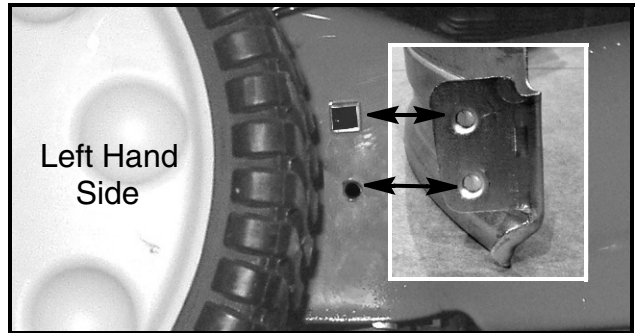

FIGURE 6
13. On the left (LH) side the new baffle has two extruded holes. On the left (LH) side of the deck there is a square hole and a round hole. See Figure 6.